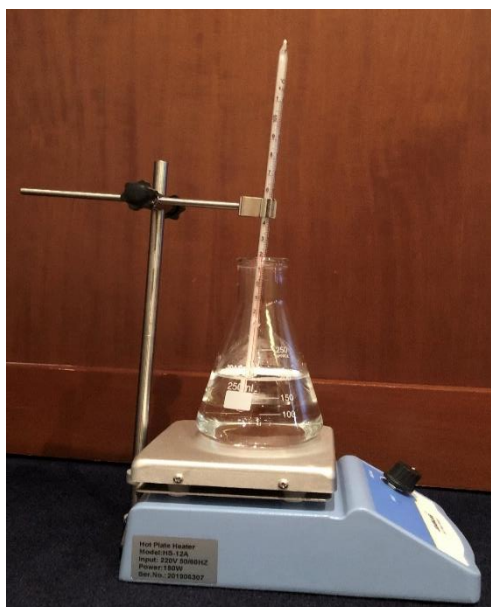

Figure 2. Experimental setup.
2. Set up the equipment as shown in Figure 2, ensuring that the thermometer is placed in such a way that it will measure water temperature, not the temperature of the conical flask. The thermometer should not be touching the flask;
6. For each time value used in your measurements, calculate the corresponding amount of energy transferred (Q) to the samples assuming that 50 % of the heat goes into water.